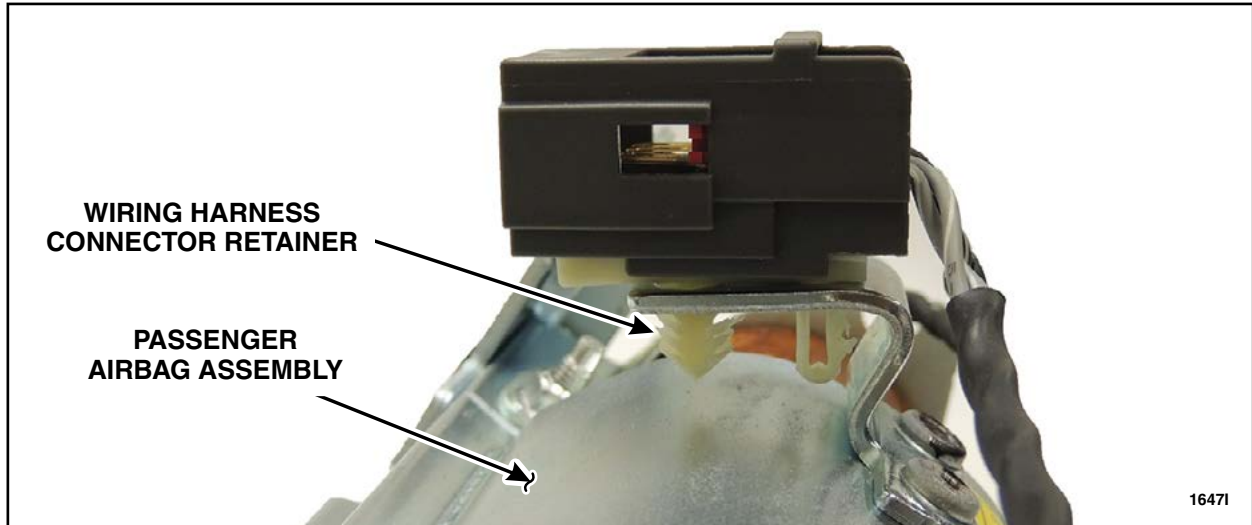

FIGURE 6
1. Remove the wiring harness connector retainer from the passenger airbag assembly. See Figure 6.